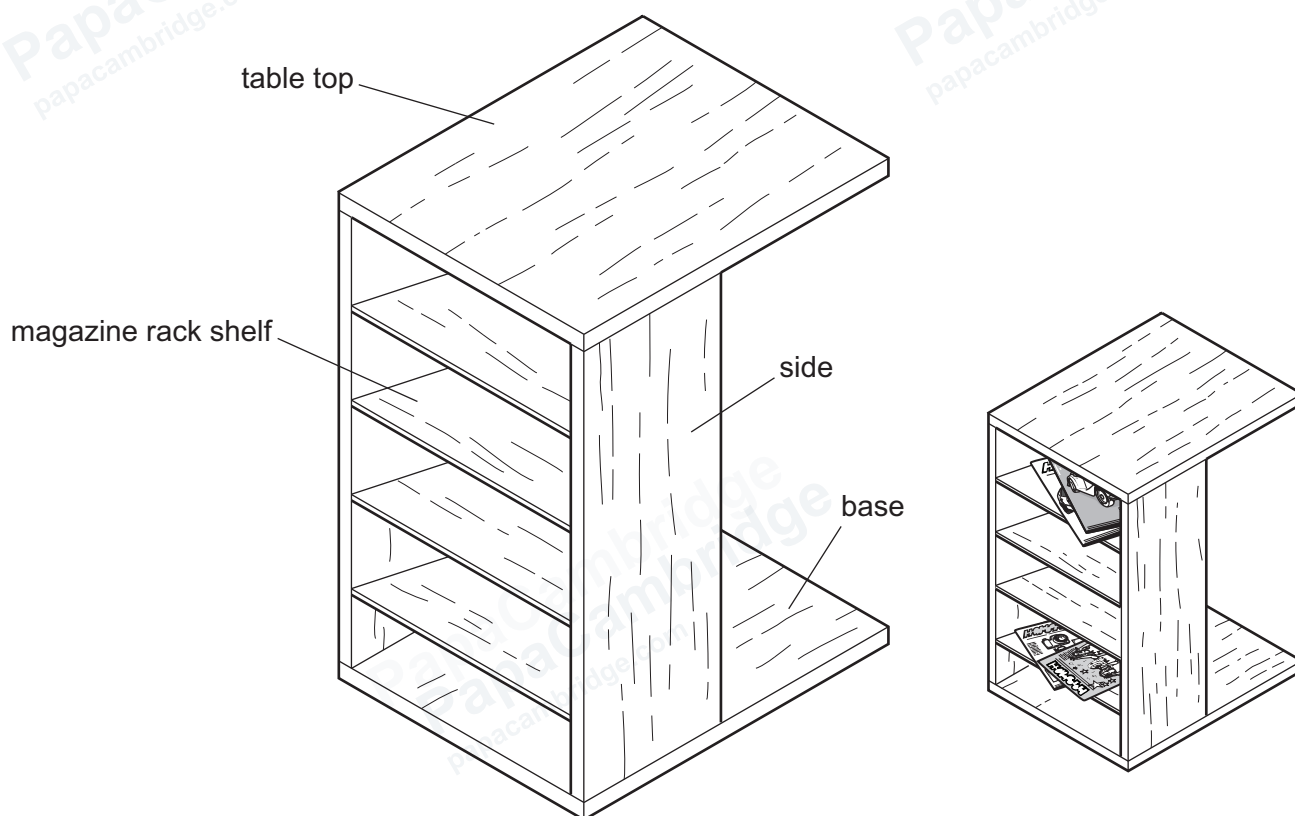

Figure 11.1
- 11 Figure 11.1 shows details of a small table with a magazine rack. All the parts of the table are made from veneered MDF.